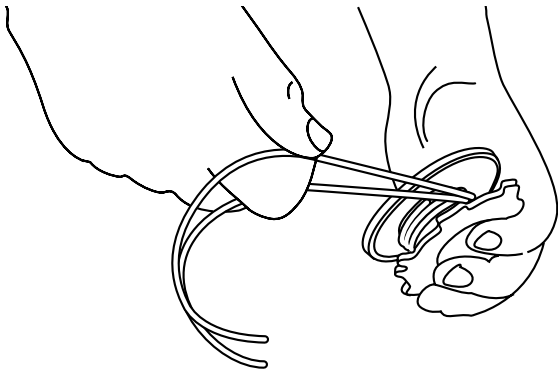

Fig. 23
7. Wind the lines in tight even layers, onto the reel (Fig. 23). Wind the line in the direction indicated on the inner reel. Place your index finger between the two lines to stop the lines from overlapping. Do not overlap the ends of the line.